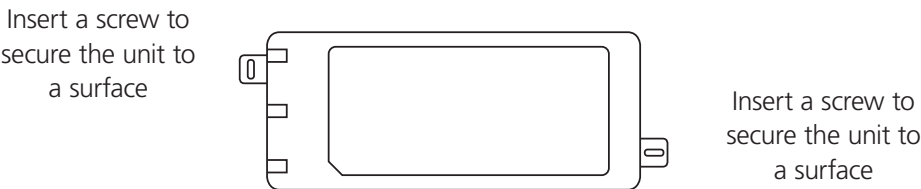

Figure 1. Location of metal feet on the power injector.
1. Using screws, affix the metal feet on the front and/or rear to a flat surface such as a table or wall. See Figure 1.